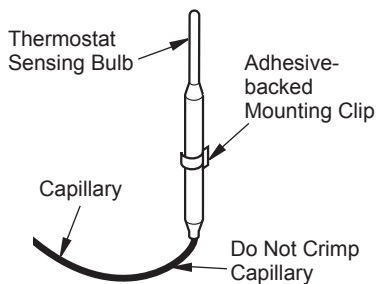

Figure 32 - Positioning Thermostat Sensing Bulb in Vertical Position with Capillary at Bottom
4. Mounting clip must be a minimum of 3" from bottom of fireplace to prevent crimping of capillary. Once you have decided on a location, clean area thoroughly. Remove paper backing from adhesive on back of mounting clip. Press clip into new location so thermostat sensing bulb will be positioned vertically with capillary at bottom (see Figure 32). Slide thermostat sensing bulb into clip.